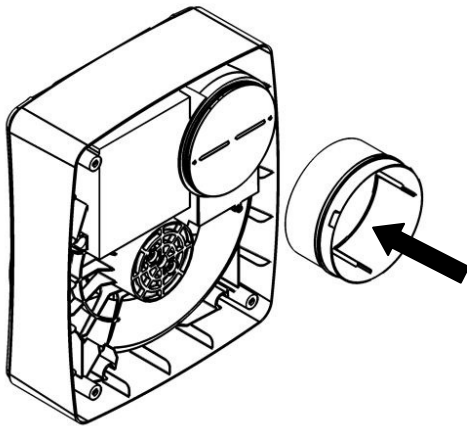

Fig. 3.
5. Attach the ducting to the Spigot and locate into the hole in the panel ensuring the Skirt is located correctly into the Base Housing. Secure into position using appropriate fixtures (Fig 3)
8. Using the Base Housing as a template, mark the fixing hole centres on the wall, carefully sliding the spigot into the Wall Liner. Secure the Base Housing into position using the screws and fixings provided ensuring the Skirt is located correctly into the Base Housing (Fig 3).